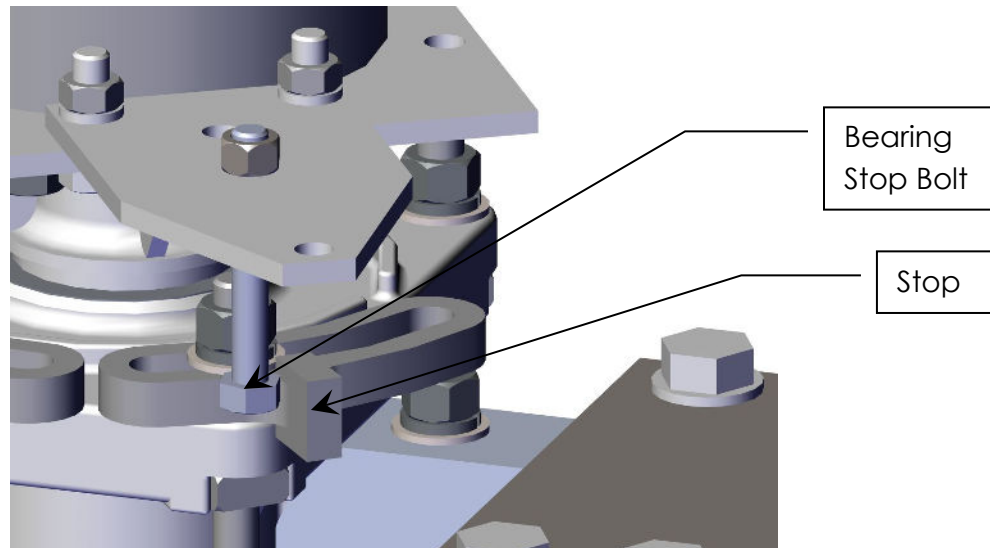

Figure 21: Bearing Opened Position Stop
- c) The bearing opened position stop at the bottom of the insulator is correctly adjusted when there is a 1/16" to 1/8" clearance between the stop and the stop bolt. Adjust stop if necessary. See Figure 21.